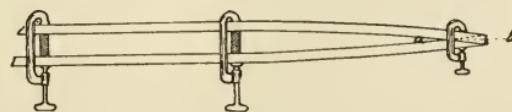

FIG. 75.—OVERLAPPING ENDS OF SIDE STRIPS.
1. **Squaring up side strips and cutting taper at ends.** — The side strips are planed 1" square and are then clamped to two blocks 3" wide, placed about 3' from each end. The ends are overlapped and held in place with clamps, as shown in Fig. 75. Then a line *ab* is drawn from where the pieces cross each other.
follows. 5" from one end square a line across the strips; 10" from this line square across another line, and repeat every 10". The last line will be 5" from the farther end of the strips. With the gauge set at $\frac{1}{2}$ ", gauge lines across each of the lines squared across; these locate the $\frac{1}{4}$ " holes that are to be bored for the bolts which will hold the strips together. Place the ends of two steps between the strips and clamp in place with carriage clamps, as in Fig. 75. Be sure that the steps are centered on the lines squared across, and that the shoulders of the steps are up tight against the strips. Bore a $\frac{1}{4}$ " hole through the strip and halfway through the step; reverse and bore from the opposite side, meeting the first hole in the center of the step. This insures a straight hole. As soon as the hole is bored, place a bolt in it, and screw on a nut and washer. Continue this until all steps are in place. The steps near the end will project beyond the strips. Mark them along the edge of the strips, so that they can be taken out and cut down to size. They are to be cut the same shape as the full-sized steps, but of course all dimensions should be reduced. When all the steps have been fitted, fasten the ends of the side strips together with large screws. Bore 1" holes for the rungs at the place marked out for them, and then bore $\frac{1}{4}$ " holes for the $\frac{1}{4}$ " bolts that hold the rungs in place. Fasten the rungs in place with $\frac{1}{4}$ " bolts.